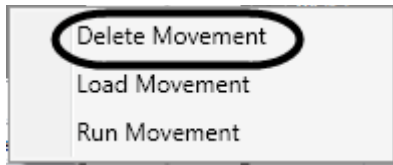

Figure 231
1. Right-click on the motor's movement you wish to delete in the **Cue Grid** and select **Delete Movement** (Figure 231).